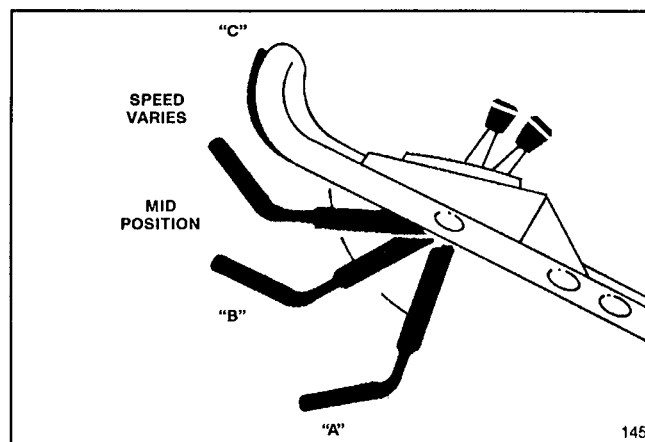

Figure 10
6. BLADE AND TRACTION OPERATION (Fig. 10)—Move control bar down to "A" and raise to "B" to engage blade. Squeeze control bar against handle "C" to drive. To disengage traction drive but keep blade engaged, gradually release control bar to mid position. To self-propel with blade disengaged, simply squeeze control bar against handle, eliminating downward movement necessary for blade engagement.
7. STOPPING (Fig. 10)—Release control bar to stop blade and traction drive. Move ground speed control to **N**. To stop engine, move throttle to **OFF**. Remove key from switch (key start model) and pull wire off spark plug if mower will be unattended or not used.